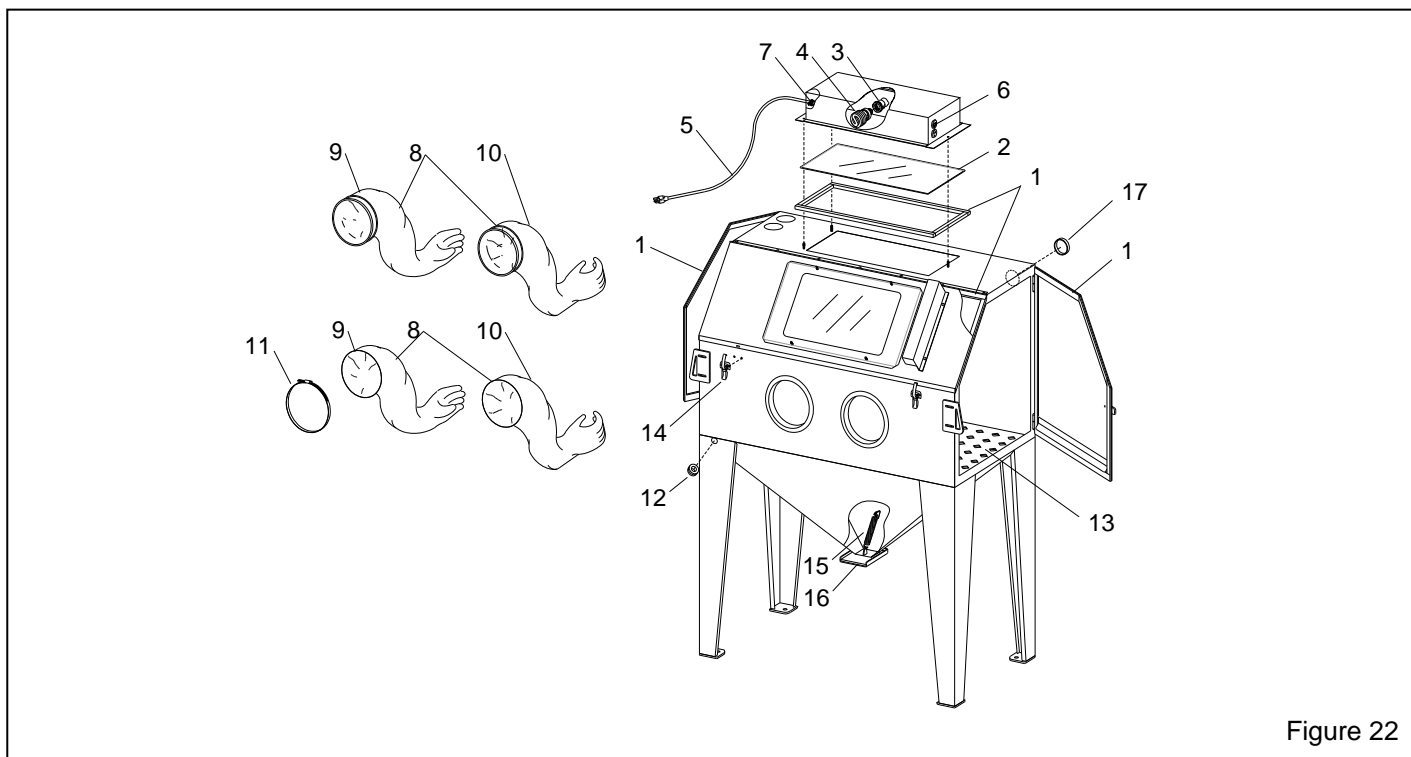

Figure 22
11.2 Cabinet Assembly, Figure 22